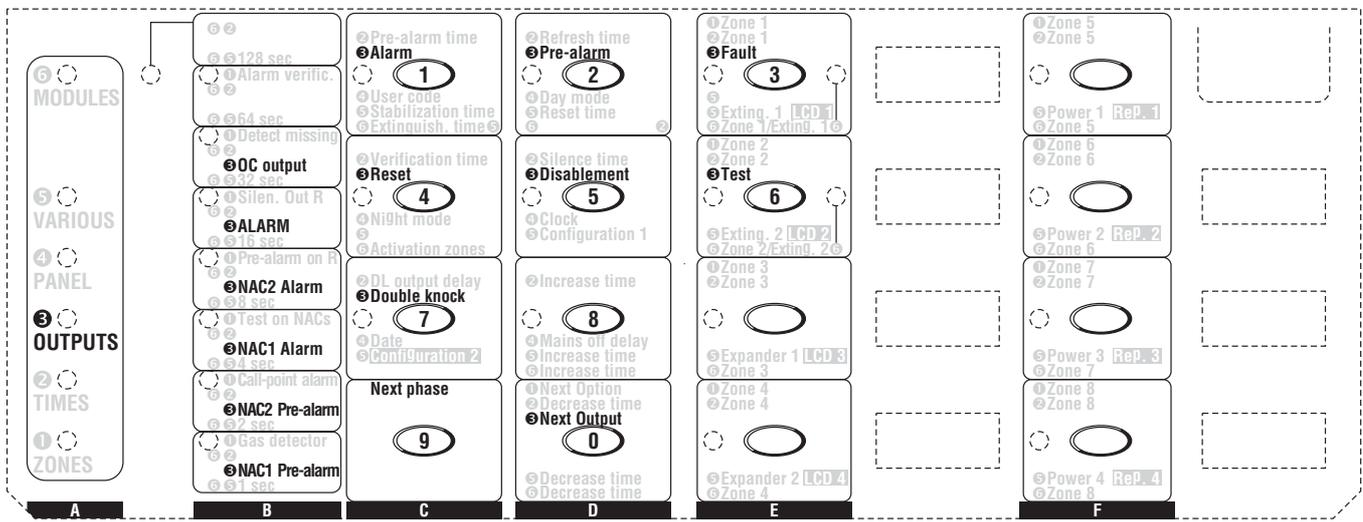

Figure 31 The “Outputs” Programming Phase
The **OUTPUTS** LED will blink to indicate that the system is ready to configure the Output Pulse Pattern (represented by LEDs 1 through 8, each LED representing a second period in the pattern). During this phase, the keys and LEDs will operate in accordance with the options preceded by ③ in the panes on the Programming Overlay, see Figure 31.
- Using the **Next Output** key (0 column D) select the output you want to program. The respective LED will go On (see column B).